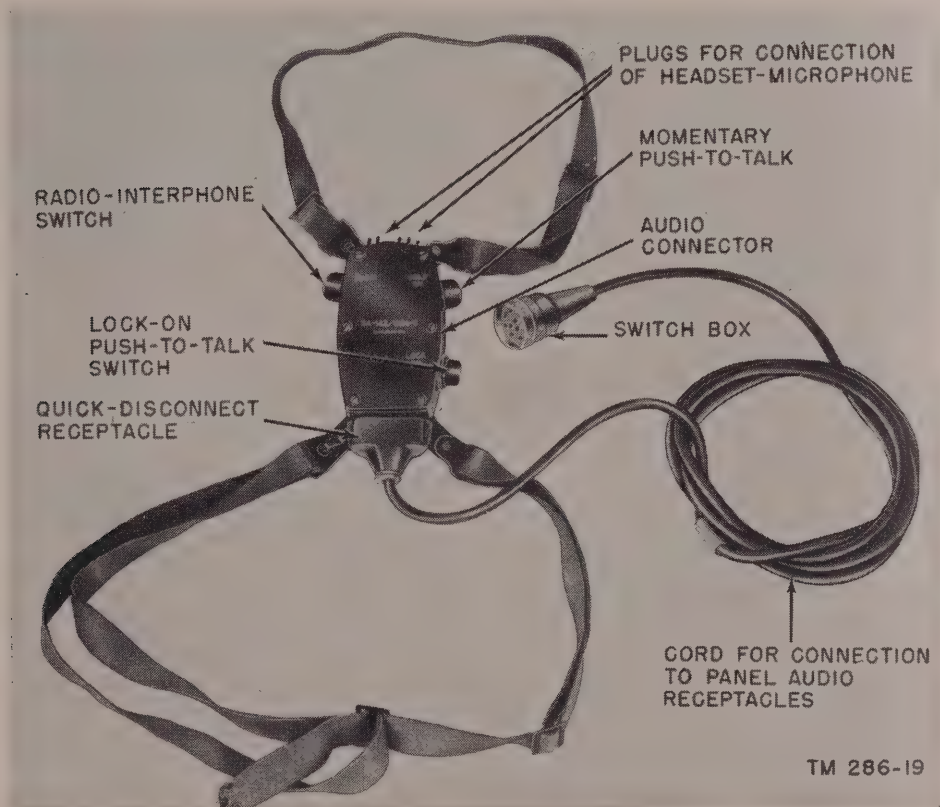

Figure 11. Chest Set Group AN/GSA-6.
b. CHEST SET GROUP AN/GSA-6. Chest Set Group AN/GSA-6 (fig. 11), in conjunction with Headset-Microphone H-63/U (*c* below), is the audio accessory most commonly used with the radio sets. The chest set group consists of a chest-mounting switch box and a 5-foot cord which terminates in an 8-contact connector on one end and a 10-pin audio connector on the other end. The connector mates with a receptacle on one end of the switch box and provides a quick-disconnect feature for the chest set. The audio connector will mate with any